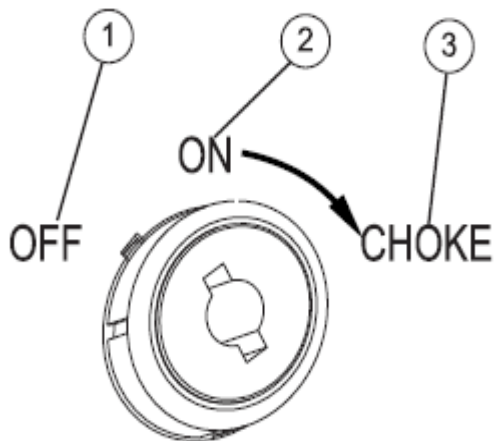

Figure-8 Off / On / Choke Positions
- * Turn the 3-in-1 switch the off/On/Choke switch to “CHOKE” (1)
- * **See Figure-8.** When engine starts, rotate OFF/ON/CHOKE dial to “ON” (2). Choke operation is reduced as OFF/ON/CHOKE dial is rotate towards “ON”.